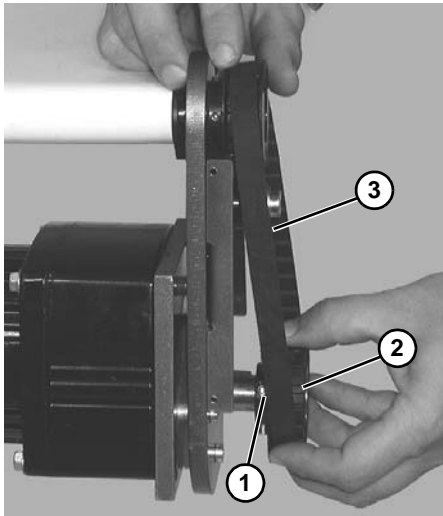

Figure 27
If drive pulley (Figure 27, item 2) is replaced, wrap timing belt around drive pulley and complete step 3.
3. Loosen drive pulley set screws (**Figure 27, item 1**). Remove drive pulley (**Figure 27, item 2**) and timing belt (**Figure 27, item 3**).
*Drive pulley (**Figure 27, item 2**) is removed. Wrap timing belt around drive pulley and complete step 10.*